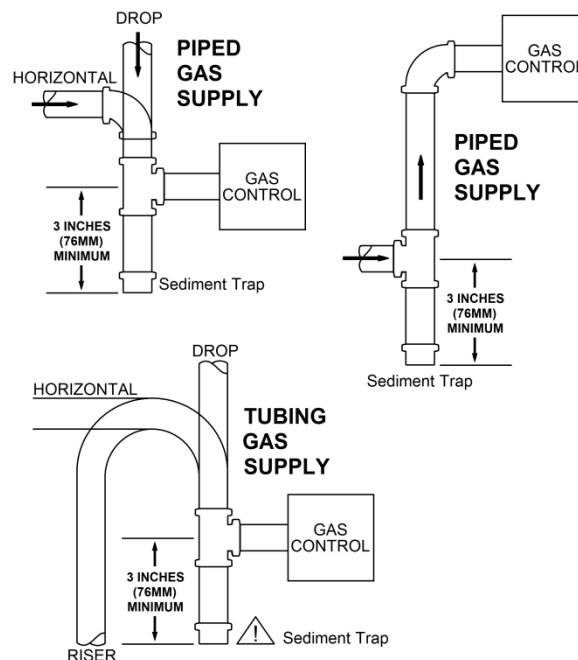

Figure 17 – Sample Gas Supply Sediment Traps
NFPA Code and Hearthstone require the use of a dedicated sediment trap just upstream of the unit. Damage to the valve, or other components due to the lack of a sediment trap are not covered by warranty (see figure 17).
- Install the sediment trap (where required) in the gas supply line to prevent contamination of the gas valve (*see figure 17*).